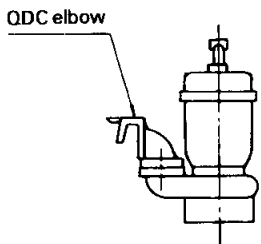

Fig. 5 Model LS
- (4) Connect piping to the companion flange which is an accessory to the unit.
- (5) Install the following on the pump, Q.D.C. flange, Q.D.C. elbow, or sliding guide. Refer to Figs. 5,6 and 7.